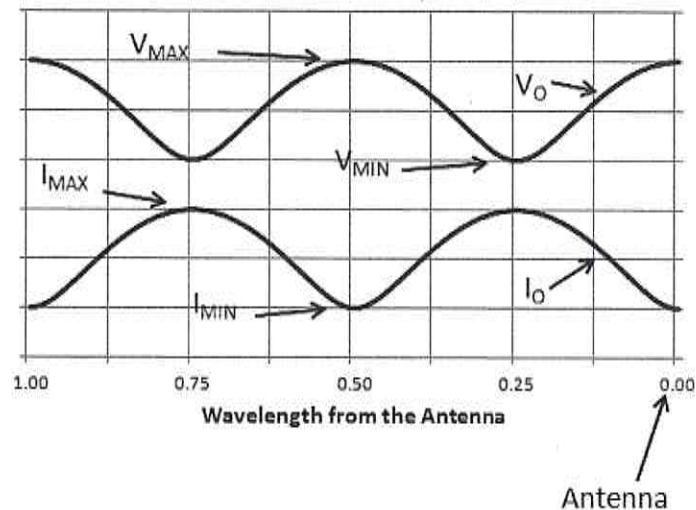
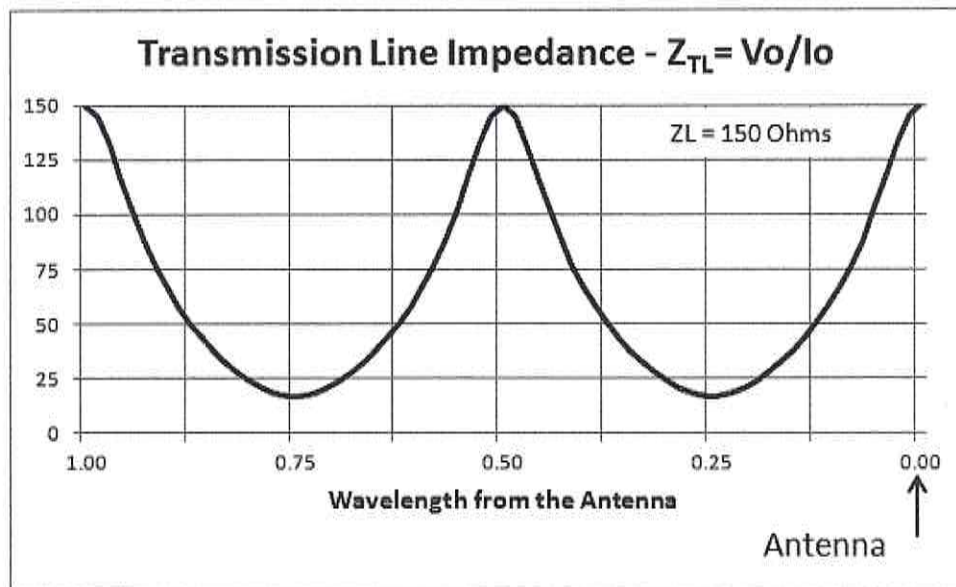
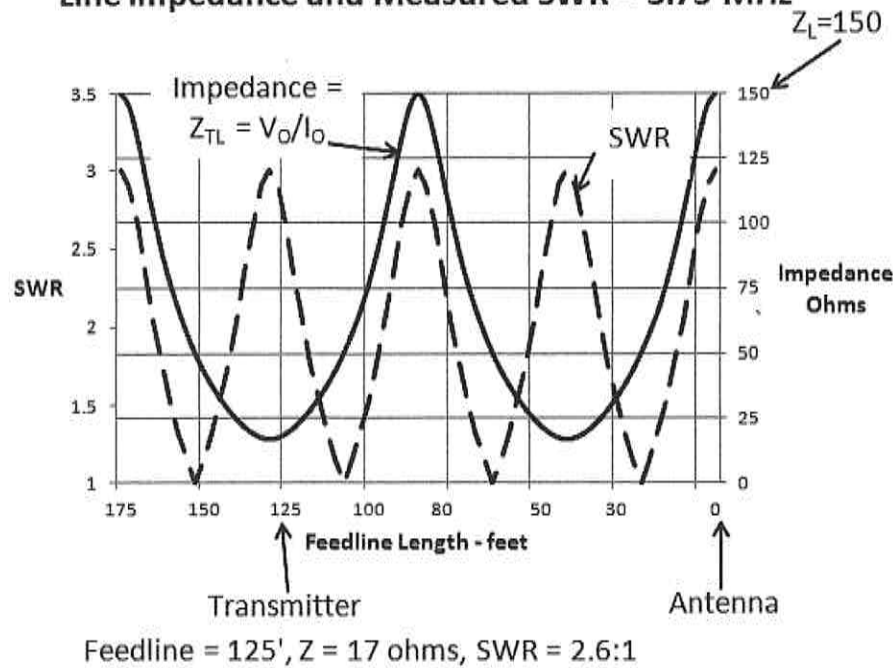

Figure 11-10. Standing Waves.
Figure 11-11. Transmission line impedance -- Z_{TL}
Figure 11-13. Line Impedance and measured SWR.
When the SWR is greater than 1:1, standing voltage and current waves exist along the transmission line as shown in Figure 11-10. The voltage and current waves can be thought of as sine waves from the transmitter travelling forward and combining with voltage and current sine waves reflected back down the transmission line from the mismatch at the antenna.
Figure 11-10 shows the standing wave voltage and current along a transmission line with $SWR = 3:1$. At any point along the transmission line the impedance is given by $Z_{TL} = V_O/I_O$. Z_{TL} , in general, is not equal to the characteristic impedance of the line, Z_O , and it varies as a function of the distance from the antenna back toward the transmitter. The only time Z_{TL} is equal to the characteristic impedance Z_O is at specific points along the transmission line where the impedance transformation makes $Z_{TL} = V_O/I_O = Z_O$. Also, Z_{TL} can equal Z_L at multiples of one-half wavelength ($0.5, 1.0, 1.5 \lambda$ etc.) from the antenna. Figure 11-11 shows Z_{TL} starting at 150 ohms at the antenna and moving back toward the transmitter.
Figure 11-13 shows the impedance at any point along a feedline with characteristic impedance (Z_0) of 50 ohms, feeding a 75 meter antenna whose impedance is 150 ohms. At the antenna, the SWR is 3:1, and $V_0/I_0 = 150$ ohms. As we move from the antenna back toward the transmitter and V_0 drops and I_0 rises (Figure 11-10), the transmission line impedance Z_{TL} drops to a minimum at about 40' and then rises and falls again until we reach the transmitter 125' from the antenna. At this point the transmitter "sees" $Z_{TL} = 17$ ohms and an SWR = 2.6:1. We will see if this is a problem or not in the next section.
- Adding a length of coax can change the measured SWR for better or worse. For example, in Figure 11-13, adding approximately 25' to the 125' feedline brings the impedance to 50 ohms and the SWR to 1:1.
- Depending on the SWR presented to the transmitter, you may have to take measures to protect your transmitter from damage and to be able to transfer the maximum power. In Figure 11-13 if you were unfortunate to have chosen a feedline approximately 175', the radio would see an impedance of 150 ohms and SWR of 3:1.
Modern transistor amplifiers are quite intolerant of over-voltages that may be produced by a high SWR load. For example, in the 3:1 SWR case shown in Figure 11-10, if your transmitter is located at a voltage maximum it can see 1.5 times the voltage as it would see for SWR = 1:1. For the case of SWR = 10:1, the voltage can be almost double. Most transmitters are quite happy with SWR of 2:1 or less.